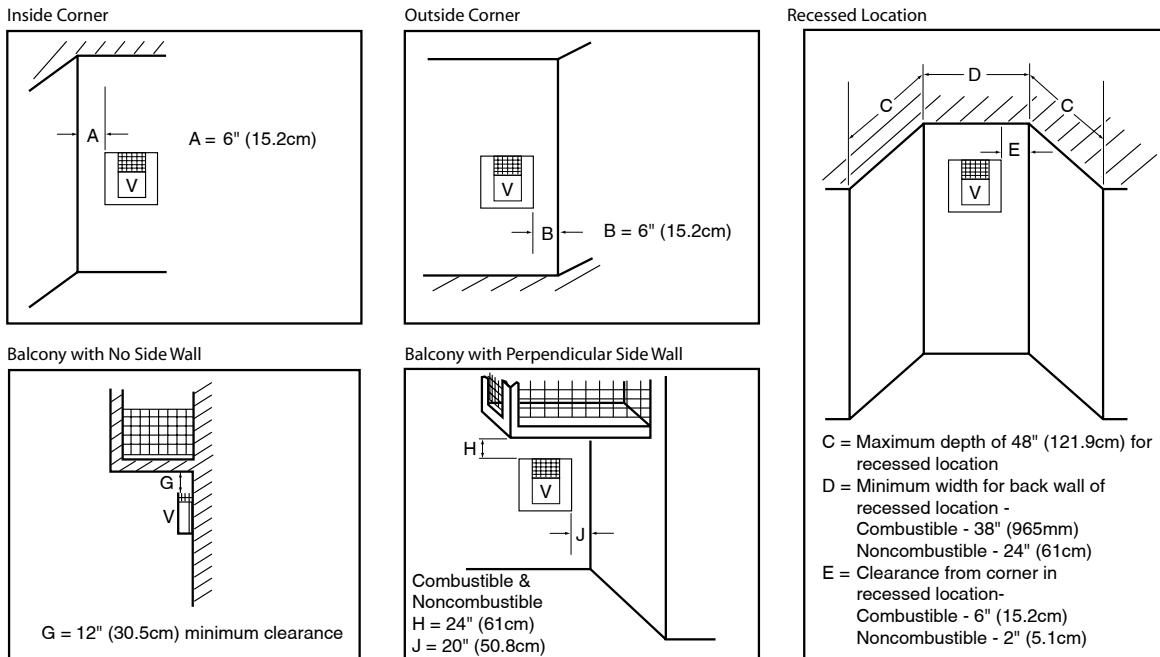

Figure 10 - Minimum Clearances for Termination Cap
- When locating termination cap, it is important to observe the minimum clearances shown in **Figure 10**, page 7.